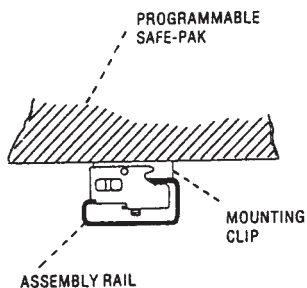

FIG. 7. Optional "assembly rail" method of mounting the Programmable SAFE-PAK.
G. Refer to Fig. 7 for detailed connection to terminal insert in the SAFE-PAK. All hardware, including terminal lugs, is supplied with unit.